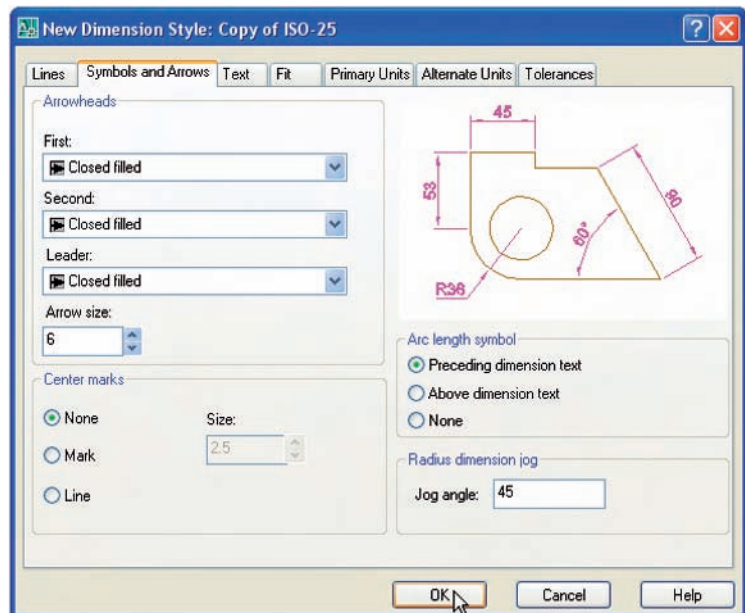

Fig. 4.12 Setting symbols and arrows in the **New Dimension Style** sub-dialog
3. The **New Dimension Style** sub-dialog appears (Fig. 4.12). In the dialog make settings as shown. Then *click* the **OK** button of that dialog.